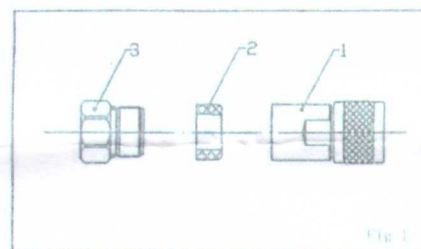

Fig 1
1) Structure of Connector: (Fig 1)